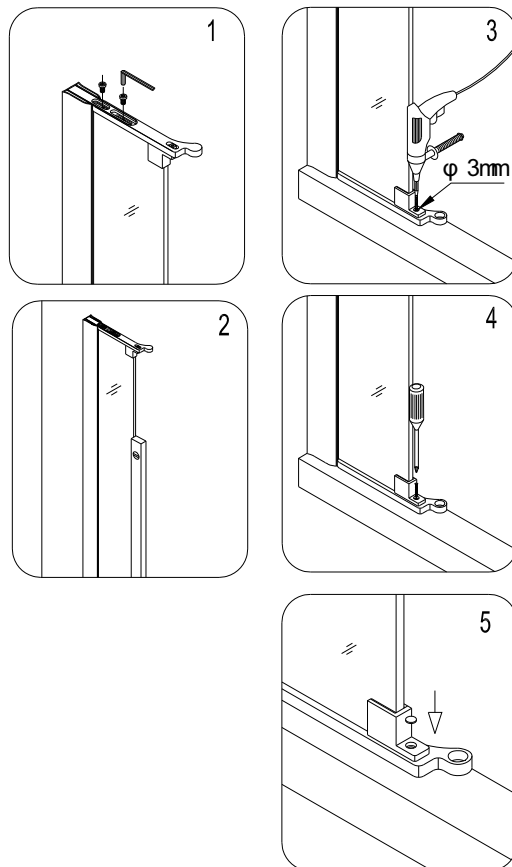

Fig 8
8. Secure the upper **Pivot bracket (9)** and the upper **Pivot fixer (10)** with **Socket head screw M6×6 (14)**. Adjust the stationary glass vertically using a level and fix in place by tightening the socket head screw. Mark drill hole on the bottom bracket. Make sure the mark is clear and visible. Drill the hole. Attach the bottom **Pivot bracket (9)** and the bottom **Pivot fixer (10)** using **Round head screws ST4.2×25 (19)**. Cover screw location with **Decorative cover (20)**. See Fig 8 for details.